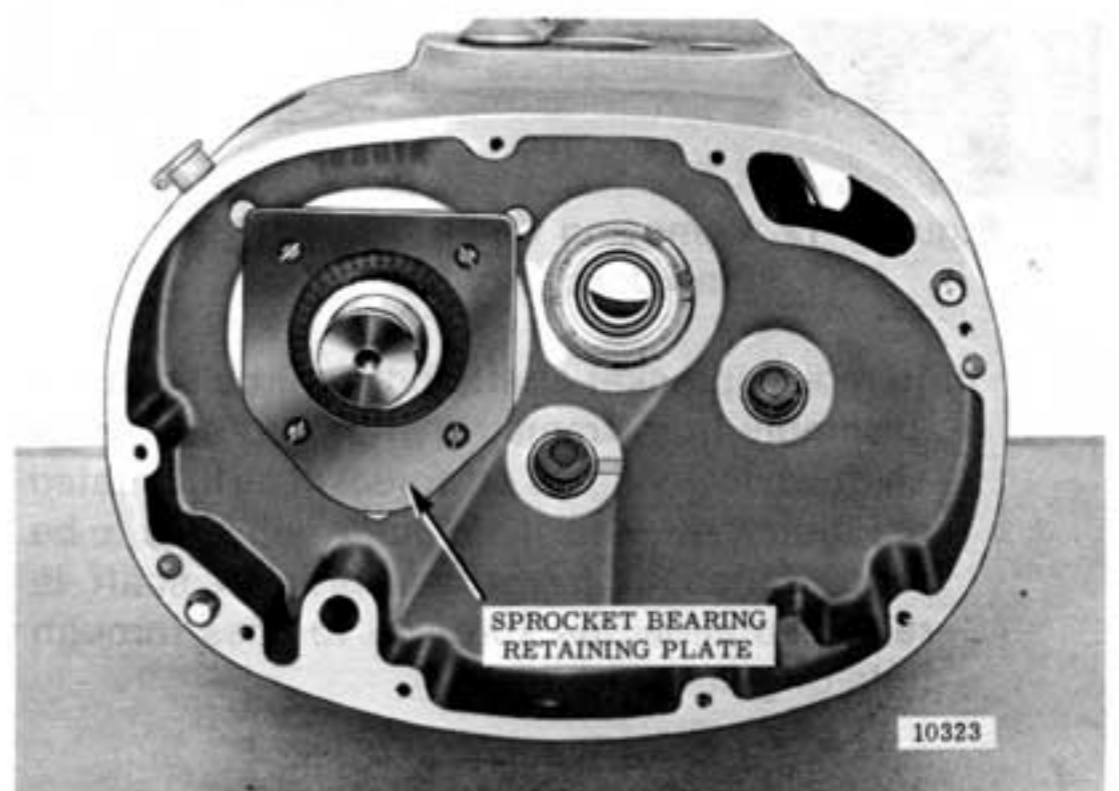
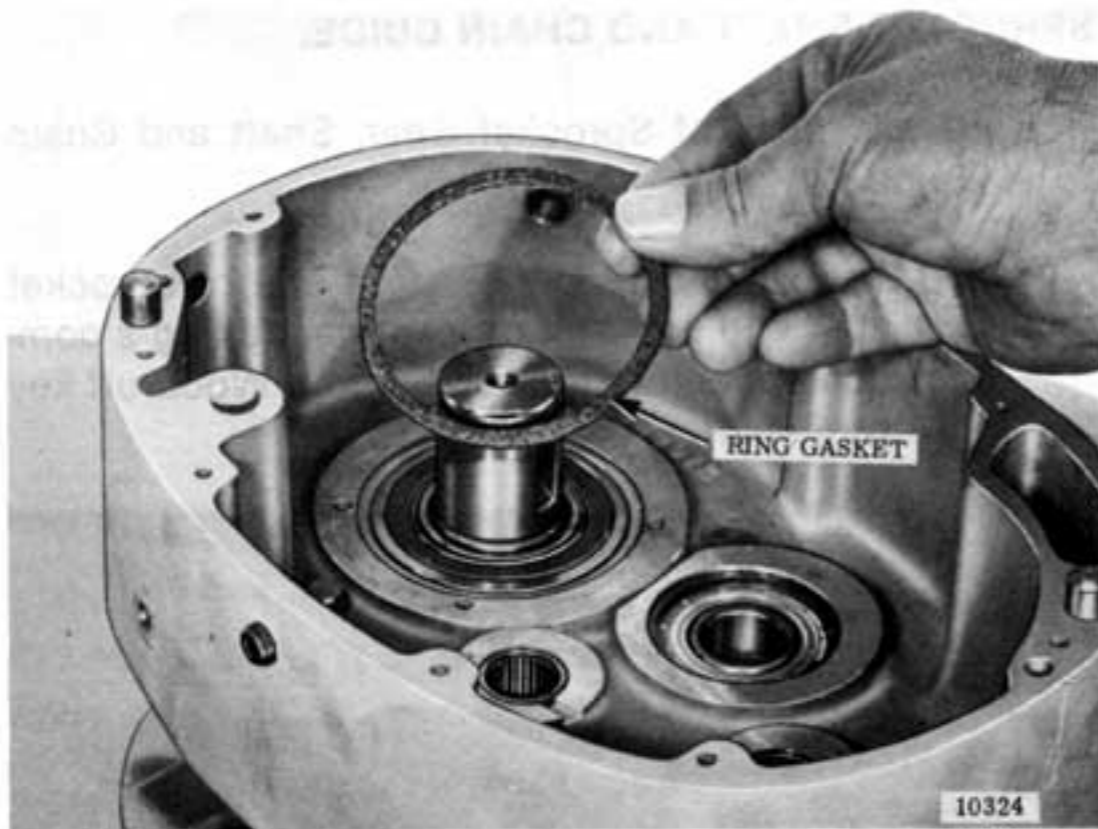

Figure 7-10. View of Sprocket Bearing Retaining Plate.
Figure 7-11. Removing Sprocket Bearing Ring Gasket.
(2) Unscrew four fillister head machine screws securing sprocket bearing retaining plate and remove plate (Figure 7-10). Remove and discard ring gasket from groove around bearing or remove seal disk (Figure 7-11).